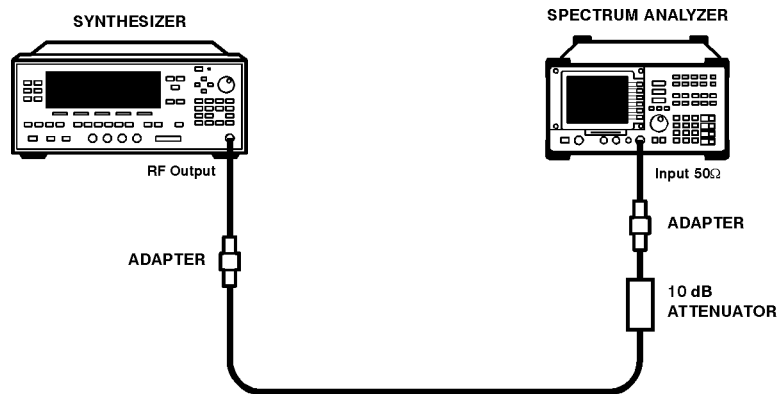

Figure 3-5. Reference Point Setup
The synthesized sweeper provides a stable continuous wave (CW) signal which is fed through a 10 dB attenuator directly into the input of the EMC analyzer. See Figure 3-5. A frequency of 10 GHz is used as the reference point for the gain calculation as it is common to all frequency bands except for the 18 to 26.5 GHz range (that is, HP 84125B only). In this range, a 20 GHz reference point is used.
1. Connect the equipment as shown in Figure 3-5.